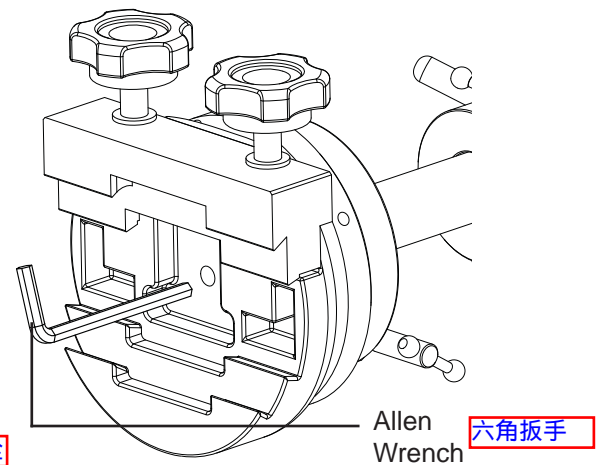

Fig. 2.5b
3. Use a 5mm Allen wrench to secure the saddle to the counterweight rod with the Allen screw in the central hole of the saddle (Fig. 2.5b). Also tighten the Allen screw on the silver ring with the same wrench. 4. 固定赤纬轴，将副镜装在副镜底座上。望远镜朝前时副镜及底座应在赤道仪的左侧。？